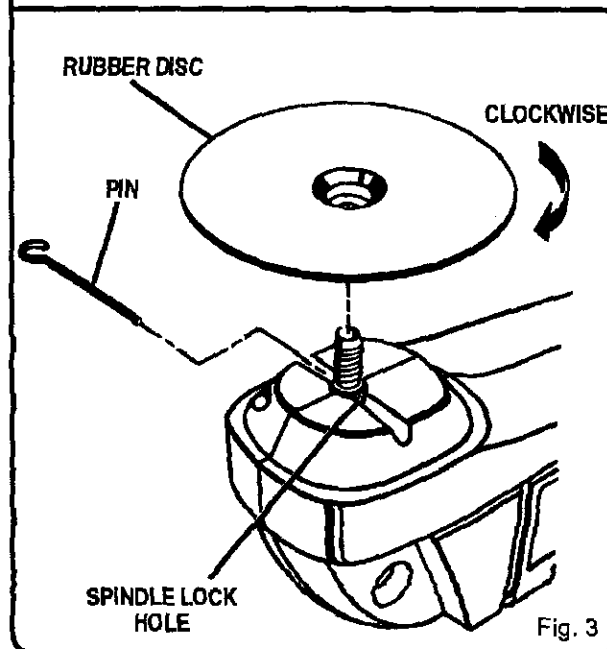

Fig. 3
See Figure 3.
- Position the tool as shown in figure 3 and align the spindle lock hole with the two half-circle notches in motor housing. Lock spindle by inserting the pin provided through spindle lock hole and trapping it in half circle notches. This will prevent spindle from rotating.